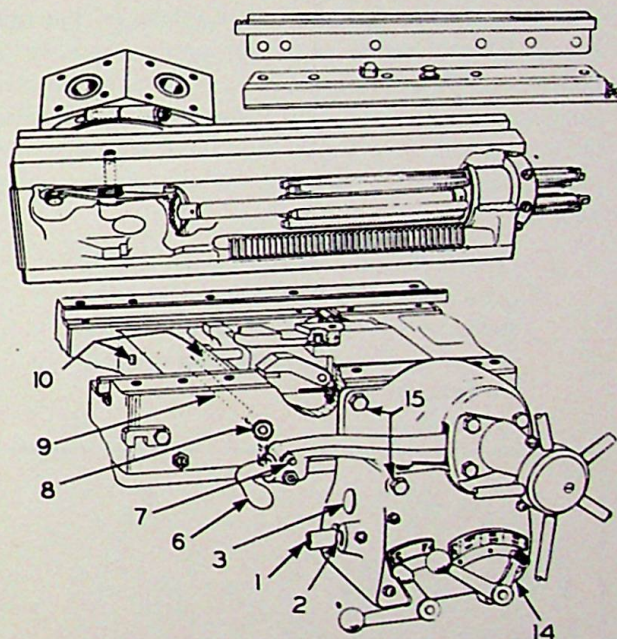
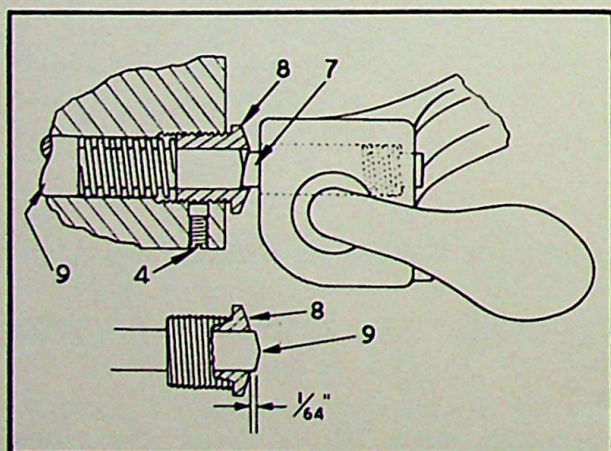

FIG. 49 Hexagon Turret Saddle and Apron
FIG. 51 Power Feed Knockoff Adjustment
The feed clutch (4) is shown in Fig. 50. It is engaged through raising handle (6) Fig. 49, whereby its trip pin (7), Figs. 49 and 51, is made to fall into bushing (8), Fig. 49. See also (8), Fig. 51. Inside of this bushing slides the feed knockoff rod shown at (9), Figs. 49 and 51.
When the turret slide stop screw (17) strikes stop (24) Fig. 37, the latter moves forward and imparts this motion also to rod (25) Fig. 37 (See also (10), Fig. 49), which in turn through an angular flat or cam surface pushes out the feed knockoff rod (9) Figs. 49 and 51, thereby disengaging the feed clutch handle and the feed clutch.
4. Set triple shift feed lever (14) to position shown in Fig. 49.
8. Remove four bolts (15) Fig. 49.
Figs. 49 and 50
(8) Figs. 49 and 51
1. Loosen set screw (4), Fig. 51.
2. Advance turret slide toward spindle by rotating the turnstile by hand and bring it to a solid stop. This will push feed knock-off rod (9), Fig. 51, to its extreme out position.
3. Adjust bushing (8) until rod (9) projects approximately $1/64$ inch.
5. It should now be possible to advance the slide $1/64$ inch more by hand. If this amount is more or less than $1/64$ inch, adjust bushing (8) until corrected, being mindful of the caution note given below.